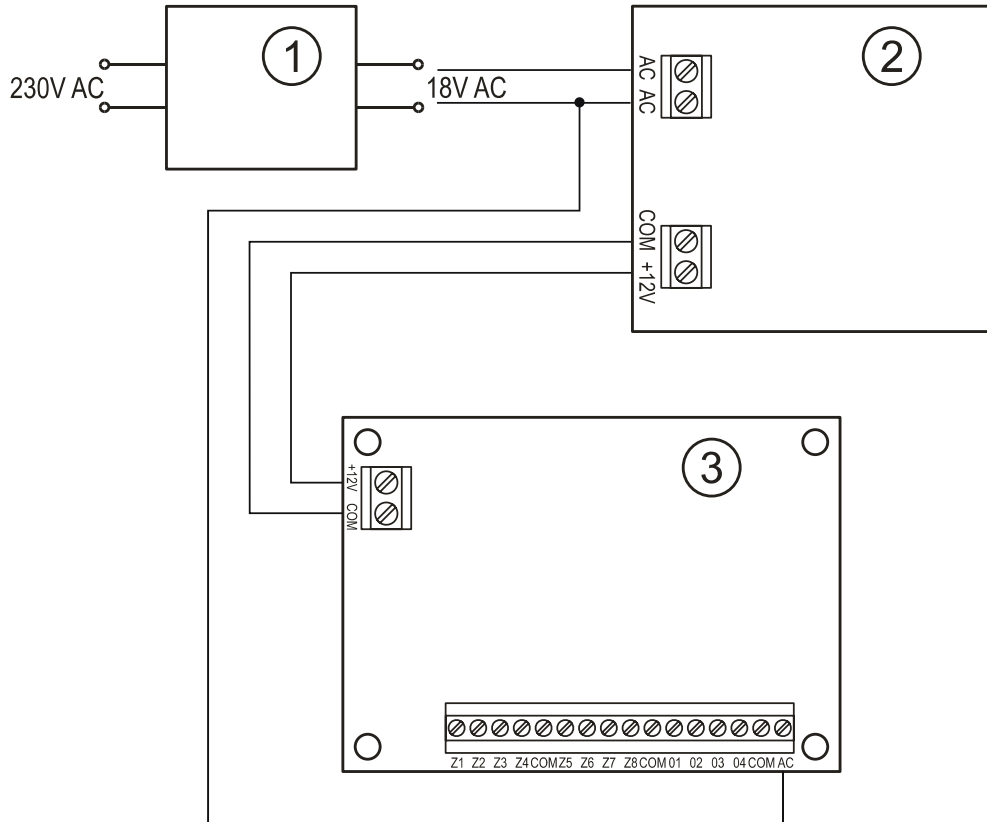

Fig. 4. Example of connecting power supply and testing AC voltage presence in GPRS-T4 module. 1 – transformer. 2 – power supply unit. 3 – GPRS-T4 module.
3. Connect the wire of transformer secondary winding, from which AC voltage is supplied, to the module power supply unit to the AC terminal (see Fig. 4).